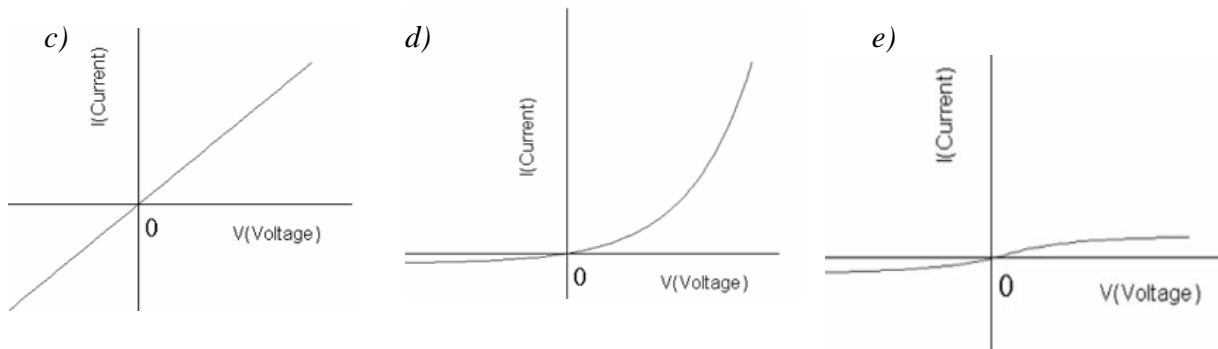

Figure HW 5-3d
d). In the case that B is ohmic and C is a Schottky junction, the I-V curve is the same as a regular Schottky junction. In other words, $J = J_0 \left[\exp\left(\frac{eV}{kT}\right) - 1 \right]$, as shown in Figure HW 5-3d. (2 pts)